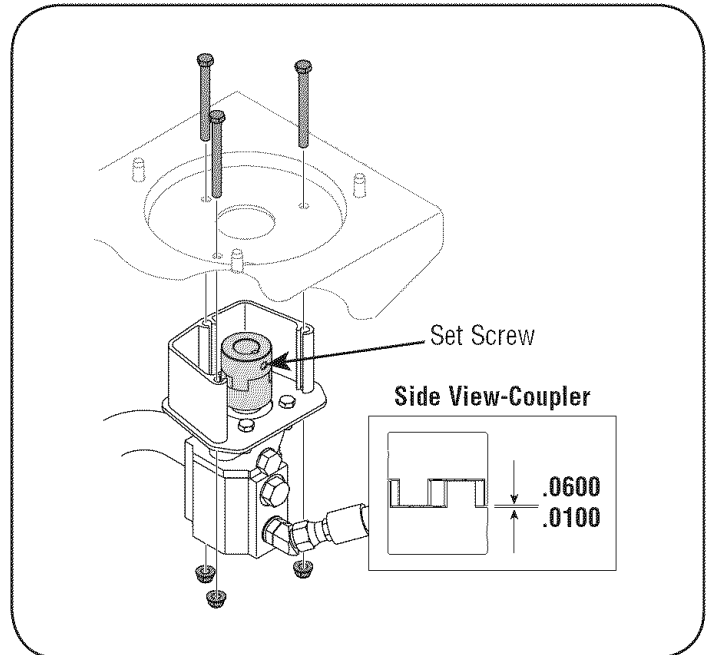

Figure 5-2
1. Remove three nuts that secure the pump to the coupling shield. Two nuts are at the bottom corners and one is in the top center. See Figure 5-2.
10. Set .010" to .060" clearance/gap between the nylon "spider" and the engine coupling half by sliding a feeler gauge or matchbook cover between the nylon "spider" and the engine coupling half and moving pump coupling half as needed. Secure pump coupling half with set screw. See Figure 5-2.